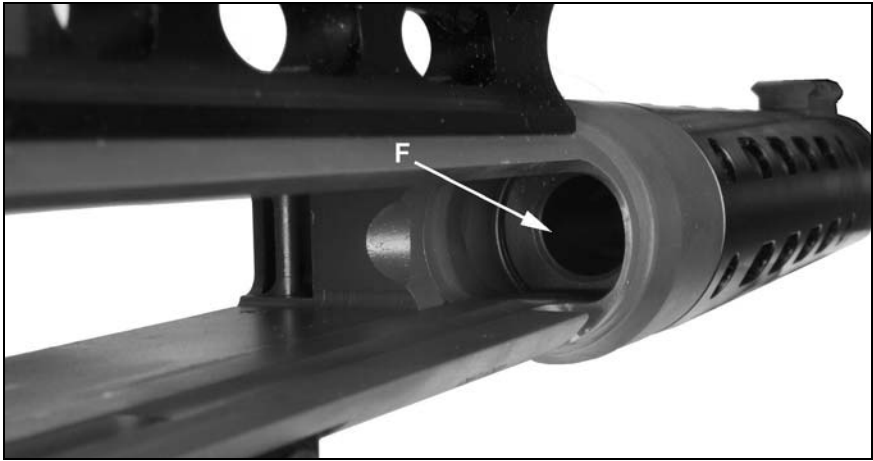

Figure 6
4. Look into the receiver through the ejection port and verify that there is no cartridge in the chamber (F). See figure 6.